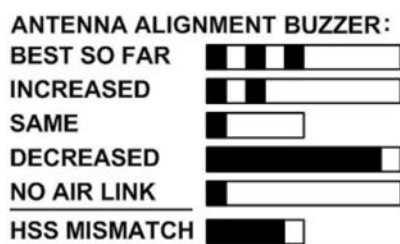

Figure 4-29: Antenna beep sequence
- The Auto position means that the Buzzer will beep as shown in Figure 4-29 during installation or upon sync loss. The main use of the buzzer tone is for HSU antenna alignment.